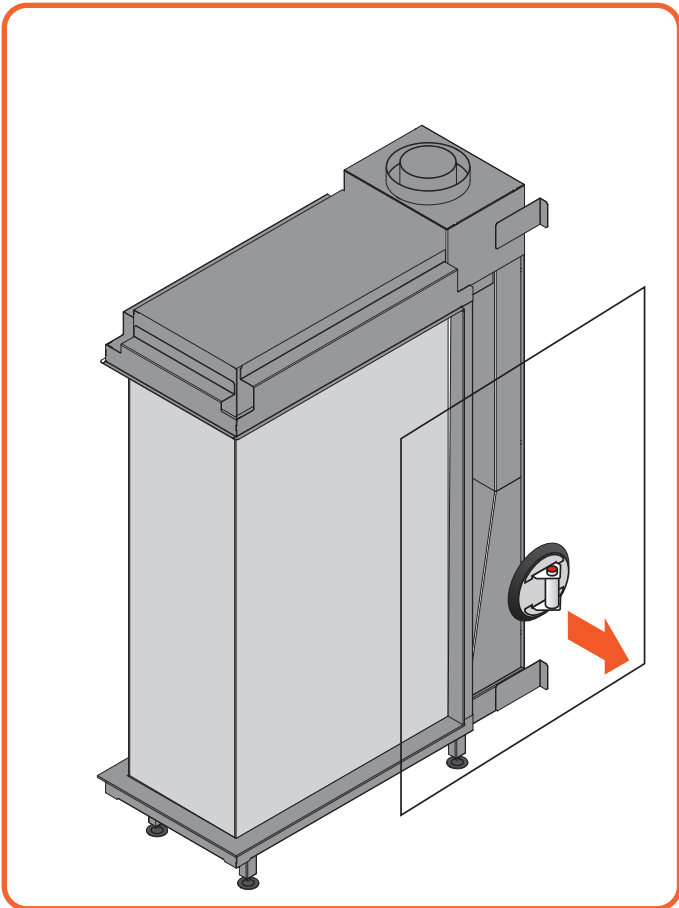

Figure 9.7 | Carefully lift the glass out of the fireplace
- Place the Suction cups on the glass and make sure they are fixed securely, see Figure 9.7